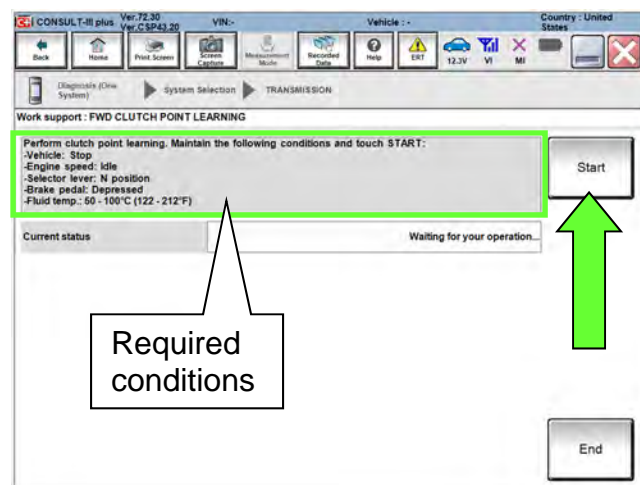

Figure 172
- Confirm that all of the conditions indicated in Figure 172 are being met.
170. While maintaining all conditions shown in Figure 172 and the “Current status” indicates “EXECUTING”, shift the CVT into **R** and then wait until the “Current status” indicates “COMPLETED”.